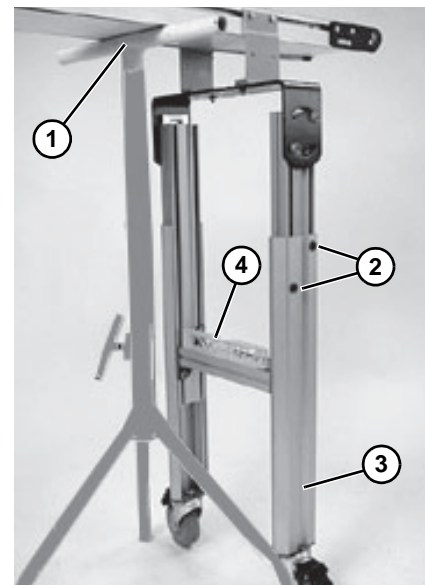

Figure 46
1. Using a support (**Figure 46, item 1**), raise conveyor and stand off the floor.
2. Loosen button screws (Figure 46, item 2).
3. Raise or lower stand leg (Figure 46, item 3) to the required height. Level stand from side to side using a level (Figure 46, item 4).
Failure to secure screws (Figure 46, item 2) may cause conveyor sections to drop down causing severe injury.
TIGHTEN SCREWS (Figure 46, item 2) AFTER ADJUSTMENT.
4. Tighten button screws (Figure 46, item 2) to 150 in-lb (17 N-m).